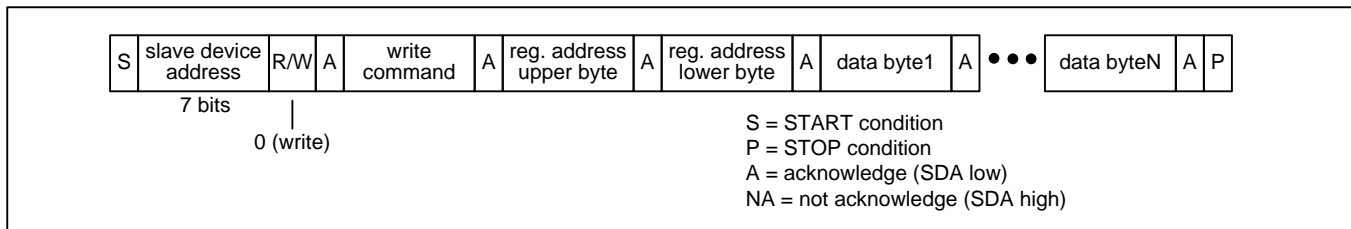

Figure 10 - I²C Register Write Transaction Functional Timing
**Register Write Transactions.** The device registers are accessible when the **EESEL** bit is 0. The bus master does an I2C write to the device. The first three bytes of this transaction are the SPI Write command (see Table 3), the upper byte of the register address, and the lower byte of the register address. Subsequent bytes are data bytes to be written. After each data byte is received, the device writes the byte to the write address and then increments the write address. The bus master terminates the write with a STOP condition (P). See Figure 10.